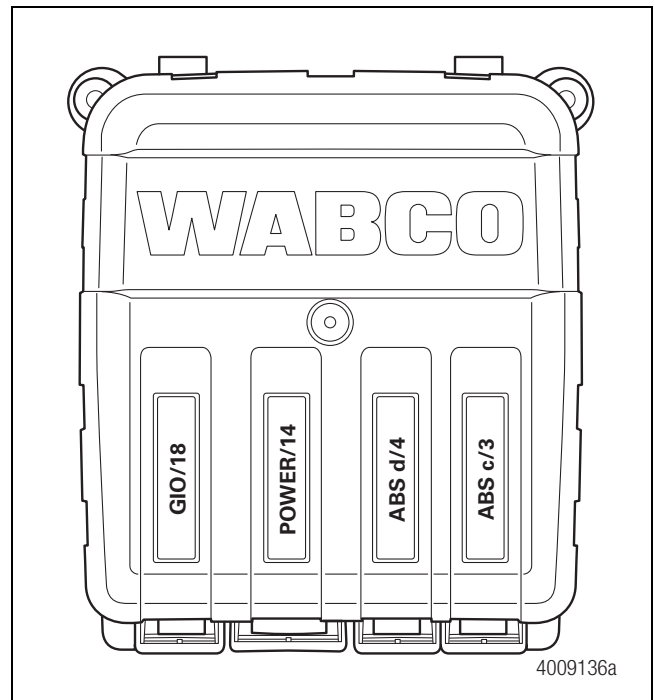
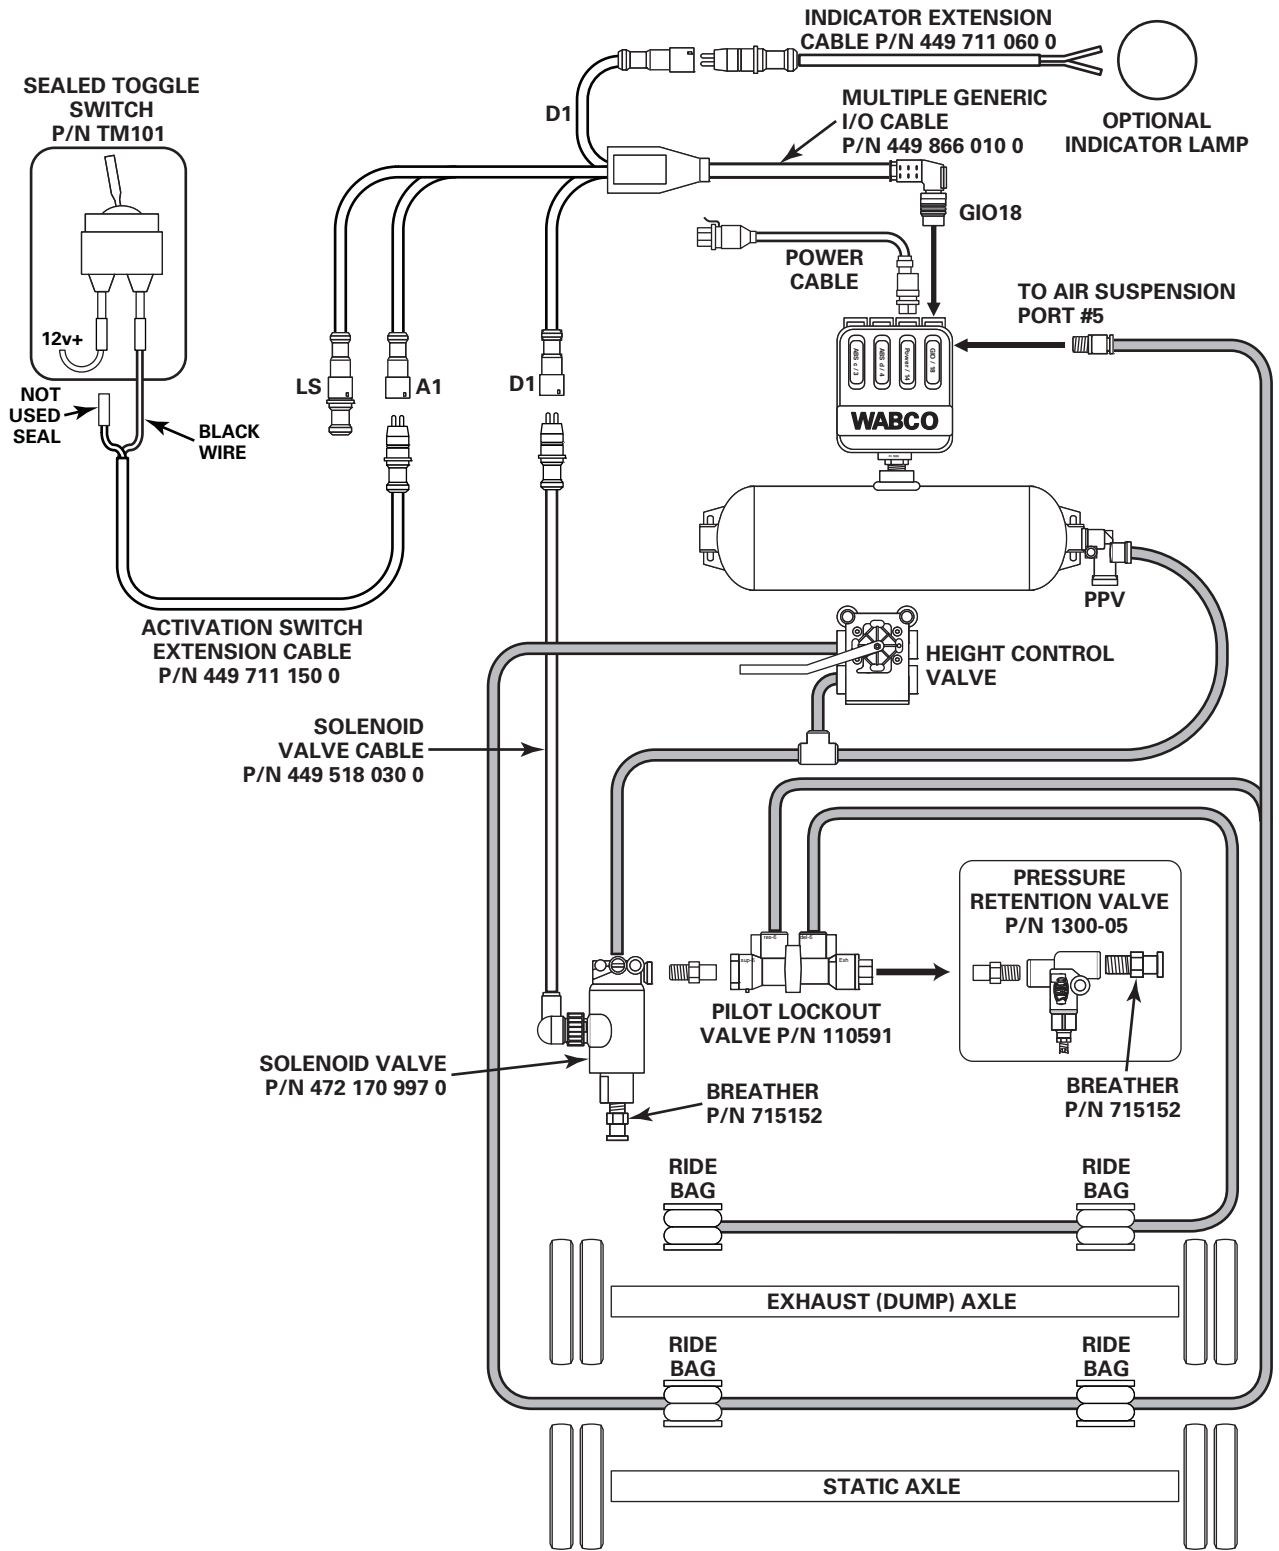

Figure 6
Figure 7
5. Connect the multiple generic I/O cable, part number 449 866 010 0, to the ECU port labeled GI018 and secure it with the locking tab. Figure 6 and Figure 7.
11. Connect the solenoid valve cable socket to the 3/2 solenoid valve, part number 472 170 997 0. Twist the socket to ensure it locks securely to the valve. Figure 7.